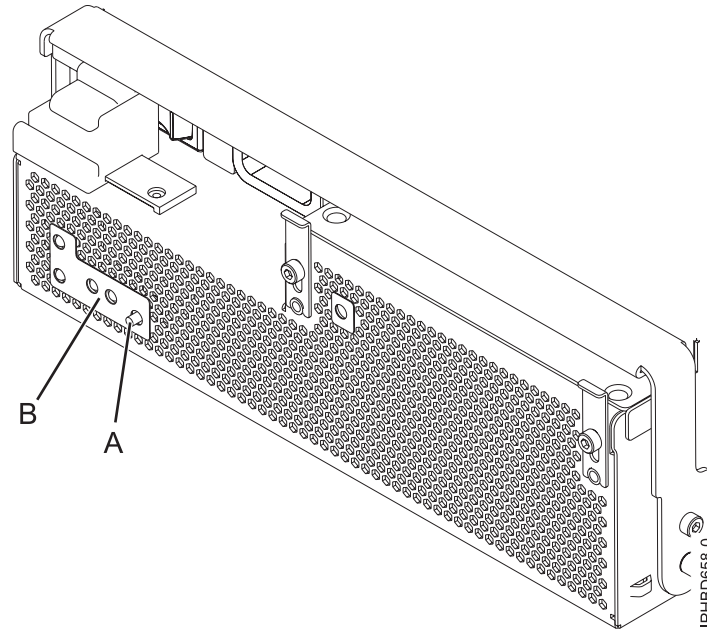
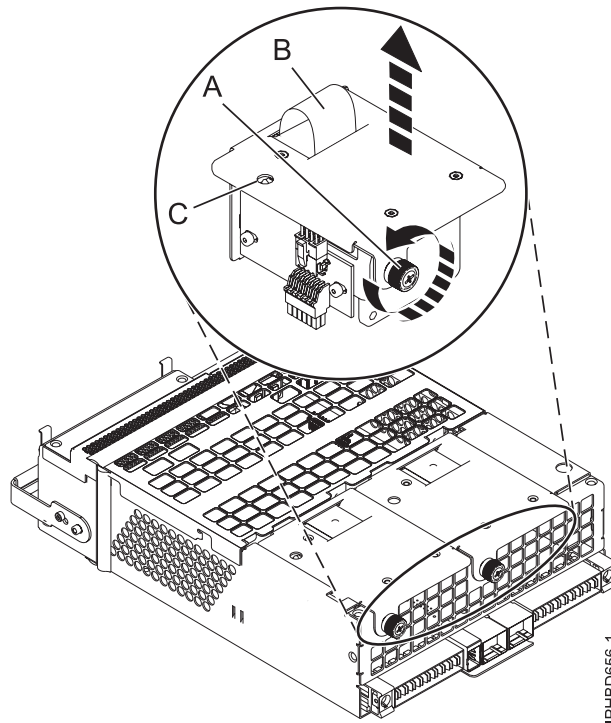

Figure 15. Fan fault LED and fan identify button
Figure 16. Removing a fan
Note: If a fan fails, the amber fan fault LED (B) on the front of the Offline Converter Assembly (OCA), as shown in Figure 15 on page 16, is on solid.
- a. To identify the failing fan. Press the fan identify button (A), as shown in Figure 15. An amber left or right fan-fault LED (C) on solid, as shown in Figure 16, indicates the faulty fan.
- b. Loosen the thumbscrew (A) that holds the fan in the power-supply assembly, as shown in Figure 16.
- c. Use the recessed fan handle **(B)** to lift the fan from the power-supply assembly, as shown in Figure 16 on page 16.